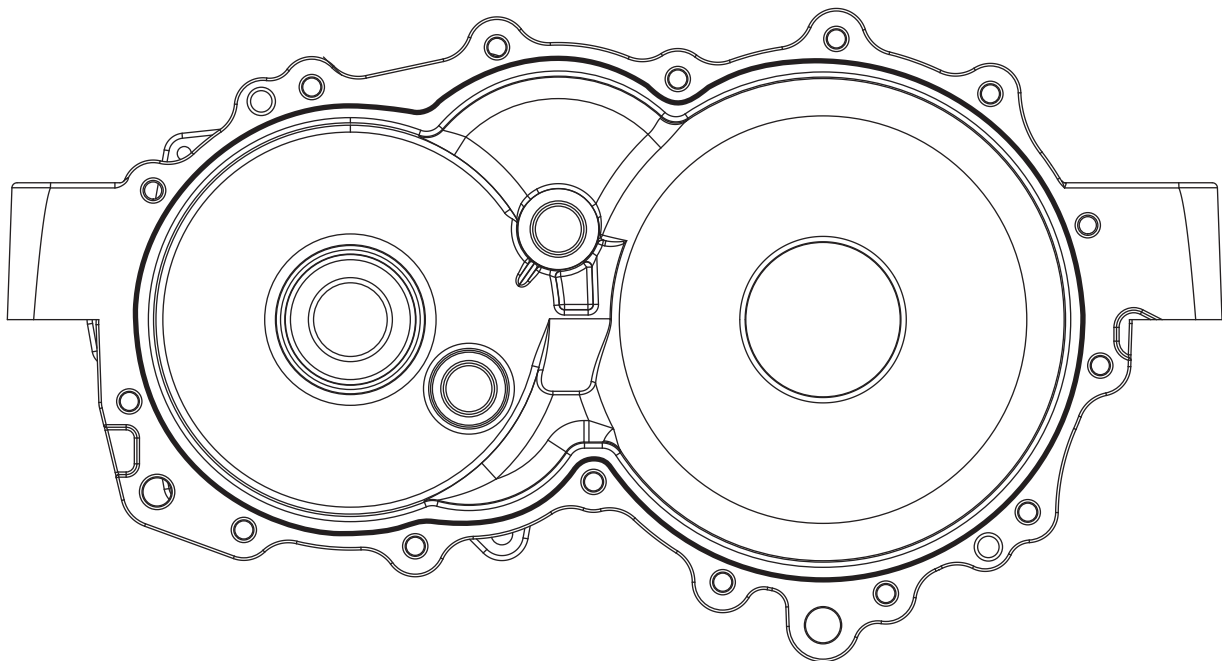

Figure 21. Housing Sealant Pattern
1. Assemble the axle shaft (104), bull gear (15) and bevel gear (102) assembly. Page 38
3. Install the drive motor (202), lip seal (50) and wave washer (51). Page 36
4. Install the sensor gear (80) and pinion gear (69). Page 35
5. Apply sealant to the main housing (1). Page 40 Figure 21
6. Install the side housing (2), right hand axle (103) and bevel gear (102) assembly, and inner bearing (105). Page 34
7. Install the outer bearing (105) axle seals (110) and retaining ring (109). Page 32
8. Install the speed sensor (67) and drain plug (16). Page 31
10. Install the oil fill plug (16). Page 31
11. Install the brake assembly (201). Page 30